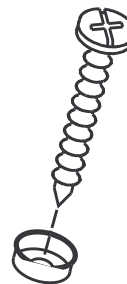

Fig. 5
- Snap the screw covers over the screw bases. (Fig.5)